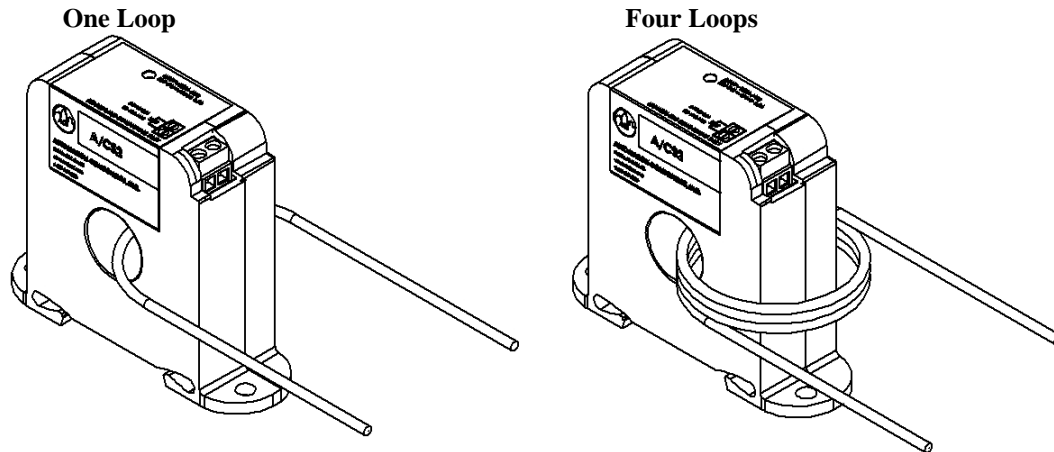

Figure 3: Wires Through Sensors
The conductor being monitored may be looped through the sensor multiple times. The loops increase the current measured by the current switch. Each time the conductor passes through the current switch window equals one loop (See Figure 3 below). To determine the proper number of loops required, take the rated Fixed Trip Point (see Figure 6) of the current switch and divide it by the Operating Current of the Monitored Device, add one (1), then round up to the nearest whole number. Example: When using the A/CS2, a small fan operating at 0.1A should be wrapped through the sensor four times to give you a total operating current of 0.4 Amps flowing through the A/CS2. Formula Example: $(0.25A/0.1A) = 2.5 + 1 = 3.5$, which rounded up equals 4 loops.
| LED didn't turn on and the current switch didn't activate | Verify that the current flowing in the conductor being monitored is above the fixed trip point as listed in the operating specifications. If the sensor is monitoring less than the fixed trip point See Figure 3 . |